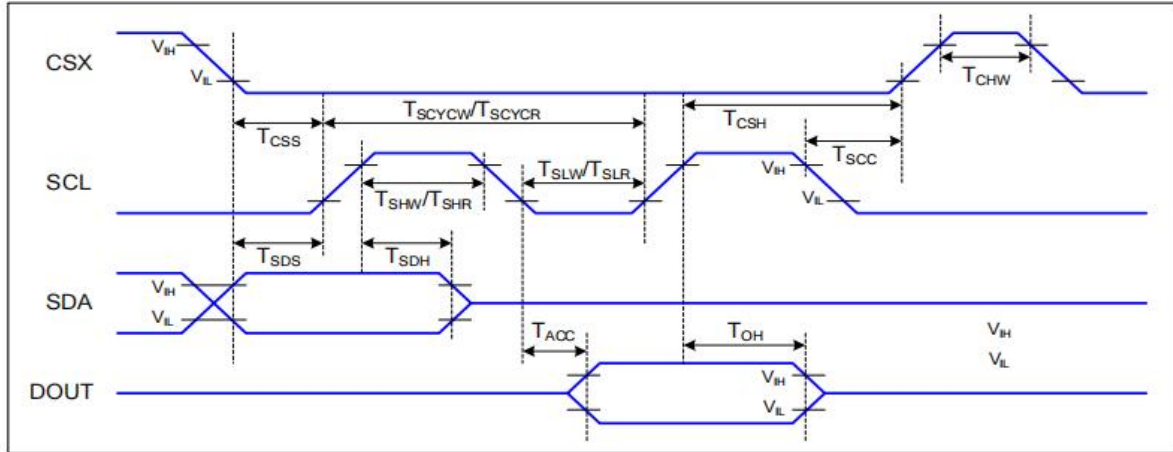

Figure 1 3-line serial Interface Timing Characteristics
Notes : 1. Viewing angle is the angle at which the contrast ratio is greater than 10. The viewing angles are determined for the horizontal or 3, 9 o'clock direction and the vertical or 6, 12 o'clock direction with respect to the optical axis which is normal to the LCD surface (see FIGURE 1).
2. Contrast measurements shall be made at viewing angle of $\Theta = 0$ and at the center of the LCD surface. Luminance shall be measured with all pixels in the view field set first to white, then to the dark (black) state . (see FIGURE 1) Luminance Contrast Ratio (CR) is defined mathematically.